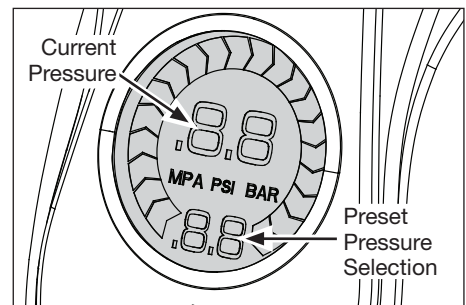

Figure 7 - Digital Pressure Gauge
6. When item reaches desired firmness, press power button again to stop inflation. The actual pressure will then read on digital gauge. (See Figure 7).